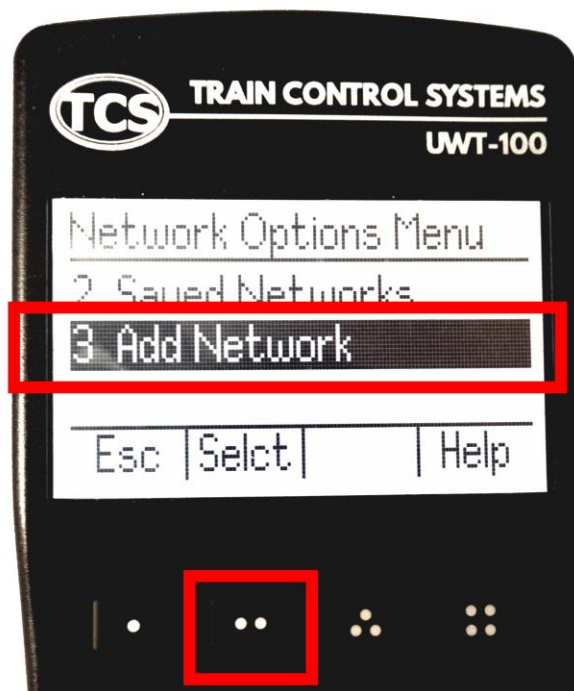

Figure 17 Select the Add Network option
(2) Select option 3, Add Network as Figure 17